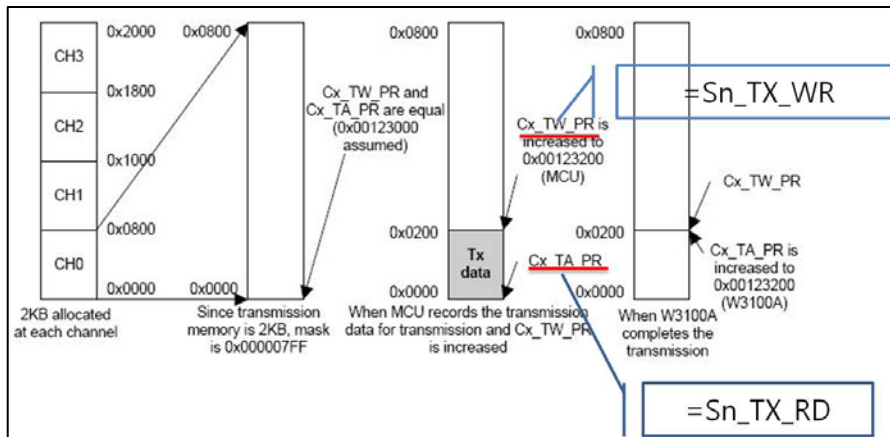

Fig.4 Pointer Management during TCP Transmission
- Function: There are no changes; please see Fig. 4.
- Function: There are no changes; please see Fig.4